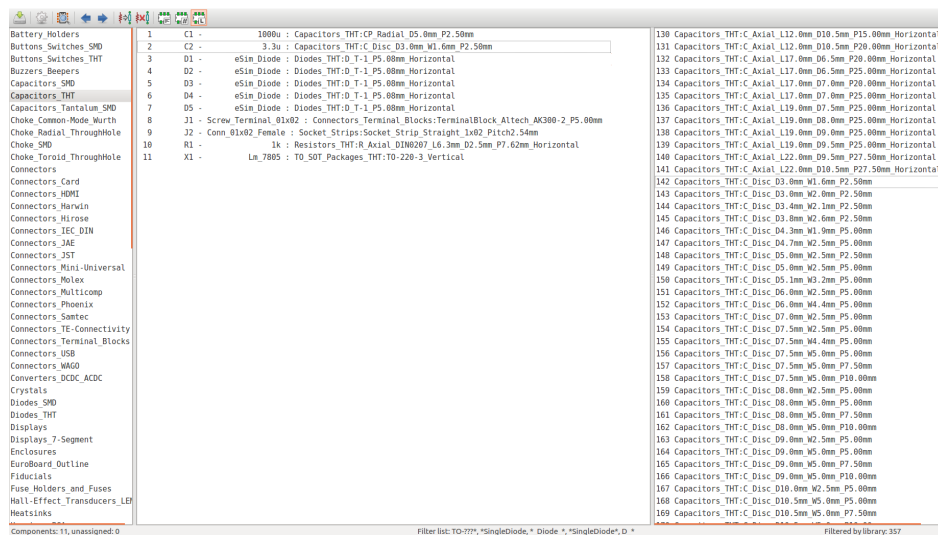

Figure 16.8: Footprint mapping completed for the circuit
2. Similarly choose the footprints per Fig. 16.8 where the footprint association for all the footprints is shown in Fig. 16.8. Save the footprint association by clicking on the **Save footprint association in schematic component footprint fields** tool from the CvPcb toolbar.